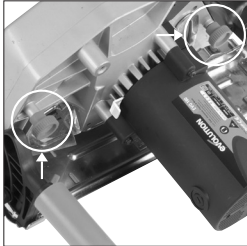

Fig. 10
- Loosen the two Chip Collector thumb screws. **(Fig. 10)**